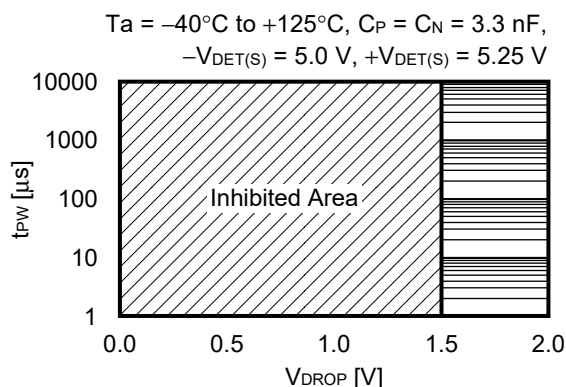
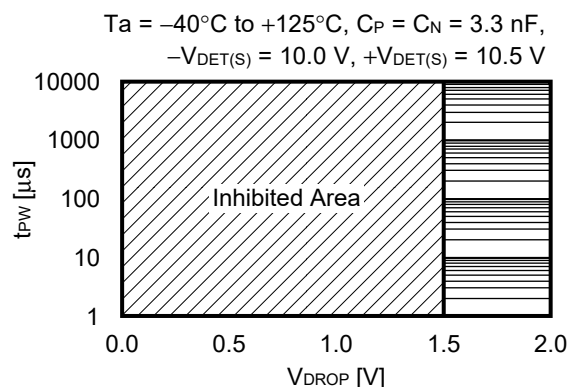

Figure 56
Figure 57
Figure 56 and **Figure 57** show the relation between pulse width (t_{PW}) and V_{DD} lower limit (V_{DROP}) where a release signal can be output after the normal release delay time has elapsed when the V_{DD} pin (V_{DD} detection product) instantaneously drops to the detection voltage ($-V_{DET}$) or lower and then increases to the release voltage ($+V_{DET}$) or higher during release delay time.
1. **Figure 56** and **Figure 57** show the input voltage conditions when a release signal is output after the normal release delay time has elapsed. When this is within the inhibited area, release may erroneously be executed before the delay time completes.
2. When the V_{DD} pin voltage is within the inhibited areas shown in **Figure 56** and **Figure 57** during release delay time, input 0 V to the V_{DD} pin then restart the S-19110 Series.